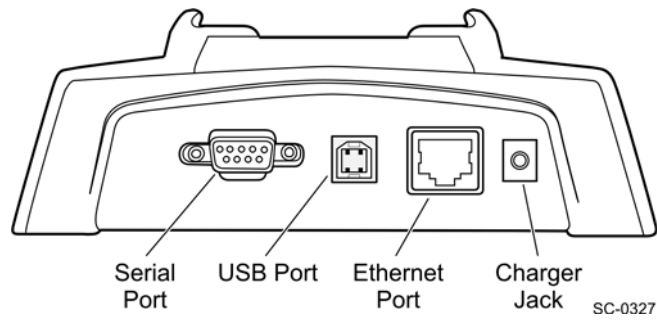

Figure 5 Single Dock Station Rear Panel
1. Connect power supply unit plug to the single docking station jack (Figure 5).